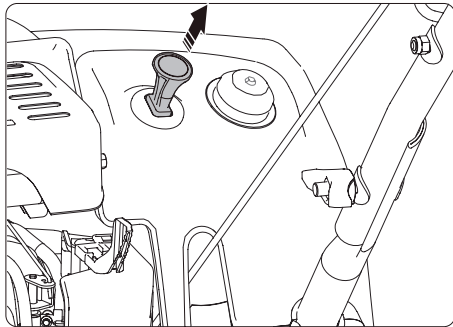

Fig 11
2. Pull the ON/OFF key out. (Fig 11)